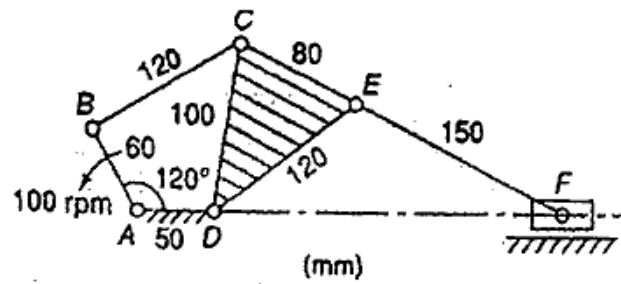

Fig. 2
- (b) For the mechanism shown in Fig. 2, find the velocities of points C, E and F and the angular velocities of the links BC, CDE and EF. 5